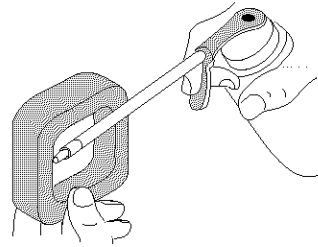

Fig. 37
4. Apply enough clean SAE 30 motor oil to lightly coat the filter (Fig. 37).